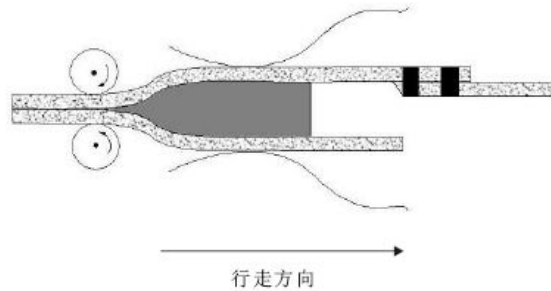

Fig.5 "T" shape welding diagram
8). A "T" shape overlap is formed between welded material and another material. Welding method is shown as fig.5, tightly butt the overlap head of hot wedge against weld mark, and beveling cut length is